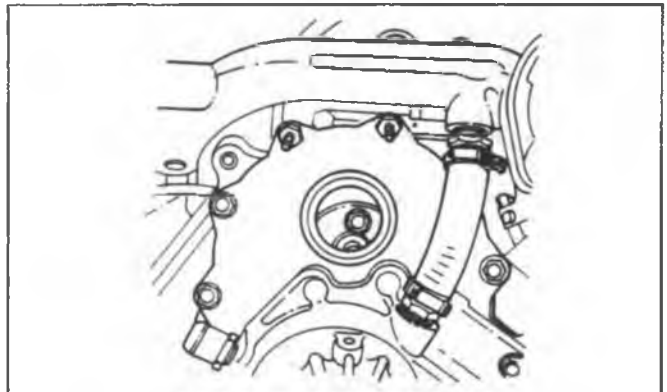

Fig. 2-22 Pump Drive Gear Bolts
10. It will be necessary to rotate engine in order to gain access to injection pump retaining bolts through the oil filler neck hole (Fig. 2-22).